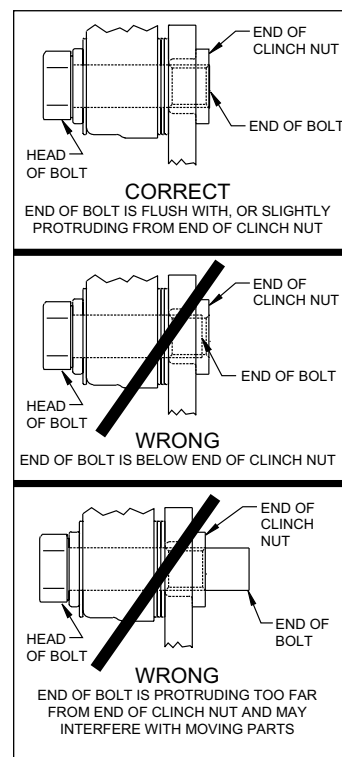

Figure 3.
CAUTION: All mounting bolts must fully engage clinch nuts. Be sure to check that all bolts are either flush or protruding through flanged side of clinch nut after shimming, Figure 3.
- Install the dust cap (16) onto the hub (7). Friction created by the o-ring (17) on the dust cap (16) keeps it from unscrewing. Be sure the spindle washer (15) seats properly against the hub face.
- NOTE:** Please reference the caution statement at the beginning of the assembly instructions. This kit contains distinct right and left hand calipers that must be mounted in a specific direction, as described below. Mount the caliper (18) onto the caliper bracket (1) using bolts (20) and washers (19), as shown in Figure 1. Initially place two .032" thick shims (21) on each bolt between the caliper and the bracket. Ensure that the caliper is mounted so the largest pistons are at the rotor exit end of the caliper, in relation to the direction of rotor rotation. Temporarily tighten the mounting bolts and view the rotor (11) through the top opening of the caliper. The rotor should be centered in the caliper. If not, adjust by adding or subtracting shims (21) between the bracket and the caliper. Always use the same amount of shims on each of the two mounting bolts. **NOTE:** The end of the bolt must be flush with or slightly protruding from the head of the clinch nut in the bracket. If necessary, place spare shims between the washer and the caliper mounting ear to achieve the proper clinch nut engagement, as shown in Figure 3. Always use the same amount of shims on both the top and bottom caliper mounting bolts. Once the caliper alignment and clinch nut engagement are correct, remove the mounting bolts and caliper.